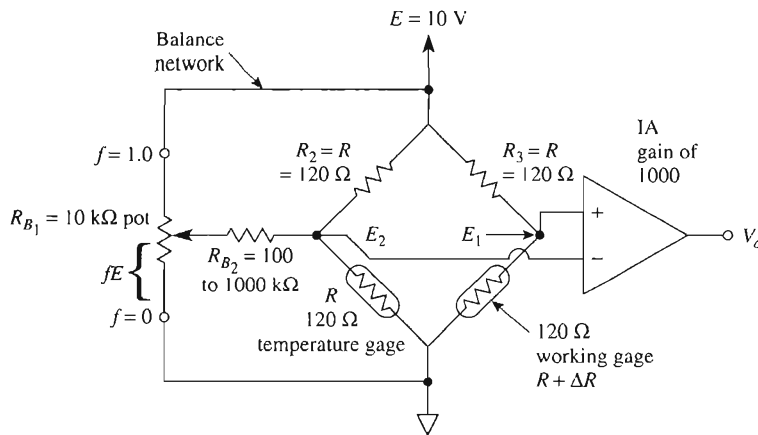
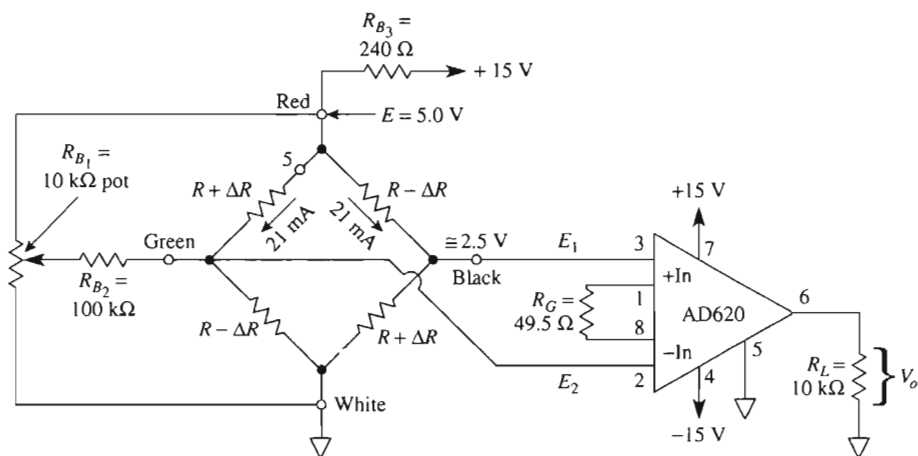

FIGURE 8-15 Improved balance network. R_{B_1} and R_{B_2} allow easy adjustment of V_o to 0 V.
FIGURE 8-17 The AD620 instrumentation amplifier is used to amplify the output of the four working strain gages [see Fig. 8-16(c)].
To analyze operation of the balance network in Fig. 8-15, assume that the R_2 and R_3 bridge resistors are reasonably equal, to within $\pm 1\%$. The strain gage's resistance should have equal resistances within several milliohms if the working gage is not under strain.
Of course, each bridge arrangement in Fig. 8-16 should be connected to a balance network (which, for clarity, was not shown) (see Fig. 8-15 and Section 8-8). Note that the output of the four-gage bridge is linear.
As shown in Fig. 8-17, an AD620 (Analog Devices) instrumentation amplifier (IA) is connected to a bridge arrangement of four strain gages. The gages are $120\text{-}\Omega$, SR4, foil-type strain gages. They are mounted on a steel bar in accordance with Fig. 8-16(c). Also the balance network of Fig. 8-15 is connected to the strain-gage bridge. R_{B_2} was selected, after experiment, as $100\text{ k}\Omega$. Strain gages were mounted in strict accordance with the manufacturer's instructions (BLH Electronics, Inc.). From the table in Fig. 8-9(b) R_G is selected for a gain of 1000.
The SCC of Fig. 8-17 is used to measure the strain resulting from deflection of a steel bar. V_o is measured to be 100 mV . Calculate (a) ΔR ; (b) $\Delta R/R$; (c) $\Delta L/L$. The gain is 1000. The gage factor is 2.0.